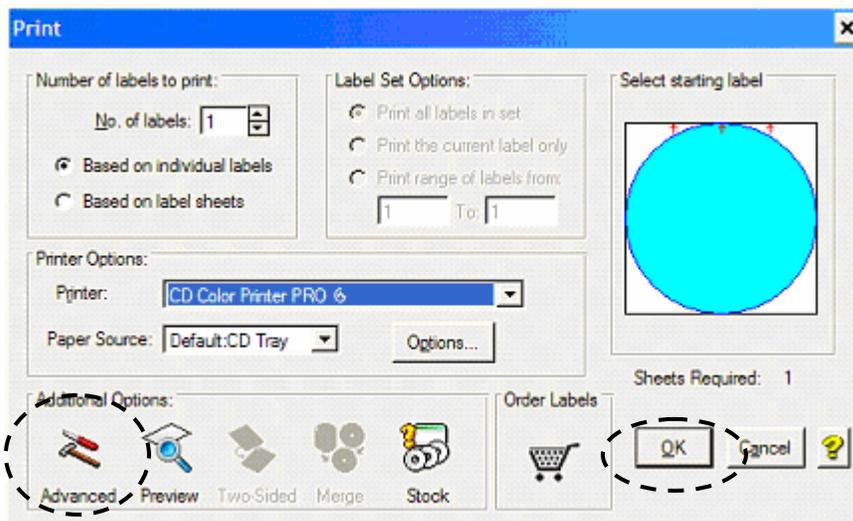
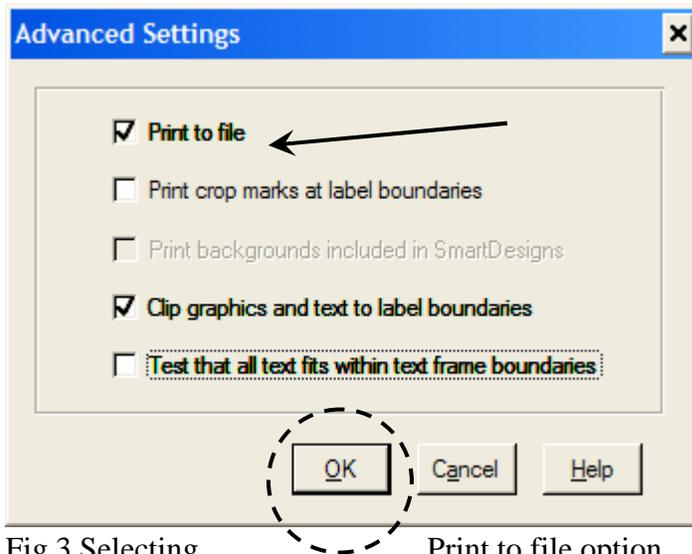

Fig.2 Print window.
Fig.3 Selecting Print to file option.
2. Follow the onscreen instructions by opening the top CD/DVD drive tray, and clicking the **Yes** button (**fig. 2**). The loader arm will then hover a disc over the open drive tray. Observe the disc’s position and make the appropriate adjustments to the drive bay tower (**fig. 3**).
(fig. 2)
(fig. 3)
2. Follow the onscreen instructions then Click *Yes* button (fig. 2). The picker arm will then hover a disc over the open printer tray. Observe disc's position and make the appropriate adjustments to the printer (fig. 3).
- 4) Under Printer option select the **CD/DVD Printer 6**, press the **Advanced** button as shown in fig. 2.
- 5) Check the **Print to file** box, press the **OK** button as shown in fig.3
- 6) Press the **OK** button to proceed as shown in fig. 2.